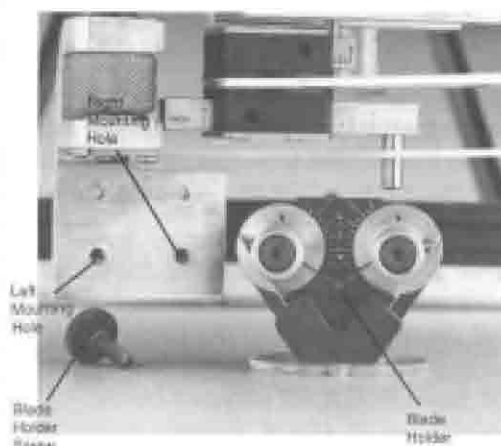

Figure 13
1. Unscrew the **Blade Holder Screw**, remove the **Blade Holder** and place it in the right mounting hole. Tighten the **Blade Holder Screw**. See Figure 13.